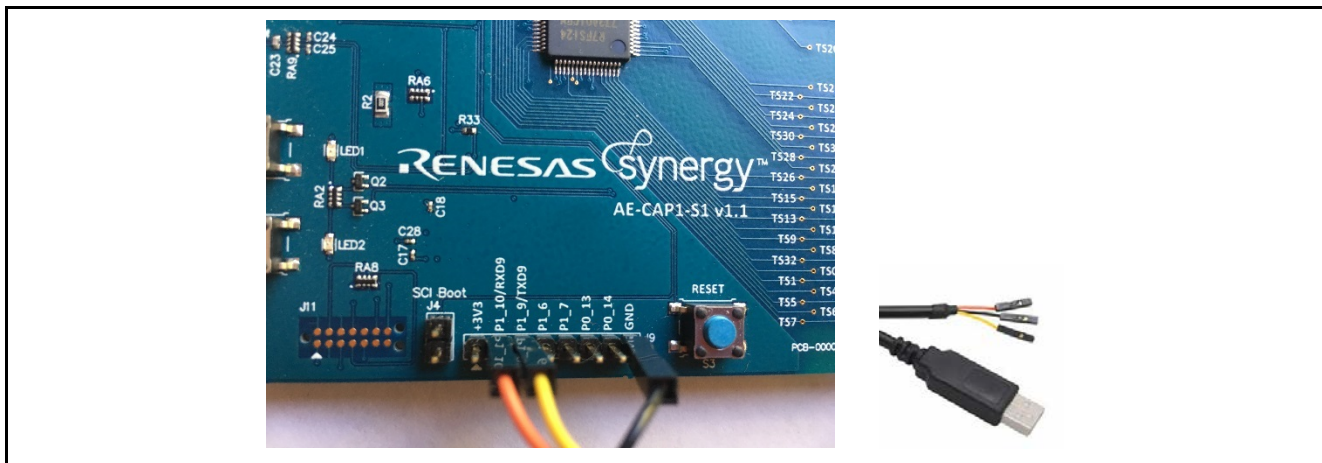
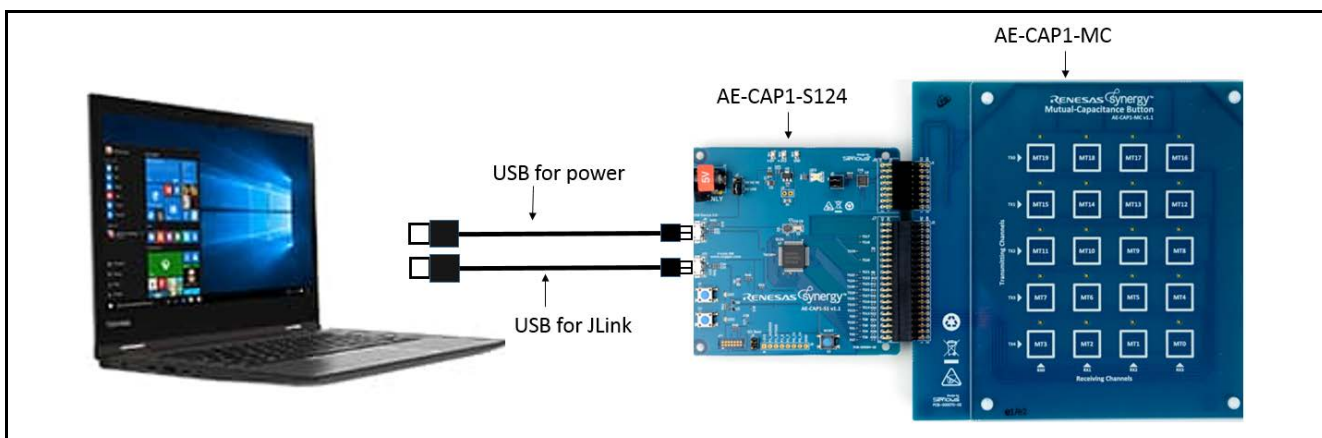

Figure 12. USB Serial Cable Connection on AE-CAP1-S1
Figure 14. AE-CAP1-S1 and AE-CAP1-MC
4. Connect the AE-CAP1-S124 J9 through a Serial to USB converter (see Figure 12) to the PC. **The USB Serial conversion cable is not included in the kit.**
See Figure 14 to connect the AE-CAP1-S1 and AE-CAP1-MC board. See Figure 12 to connect the USB Serial conversion cable between AE-CAP1-S1 and PC. Use the following steps to load the out-of-box demo2 for the system: